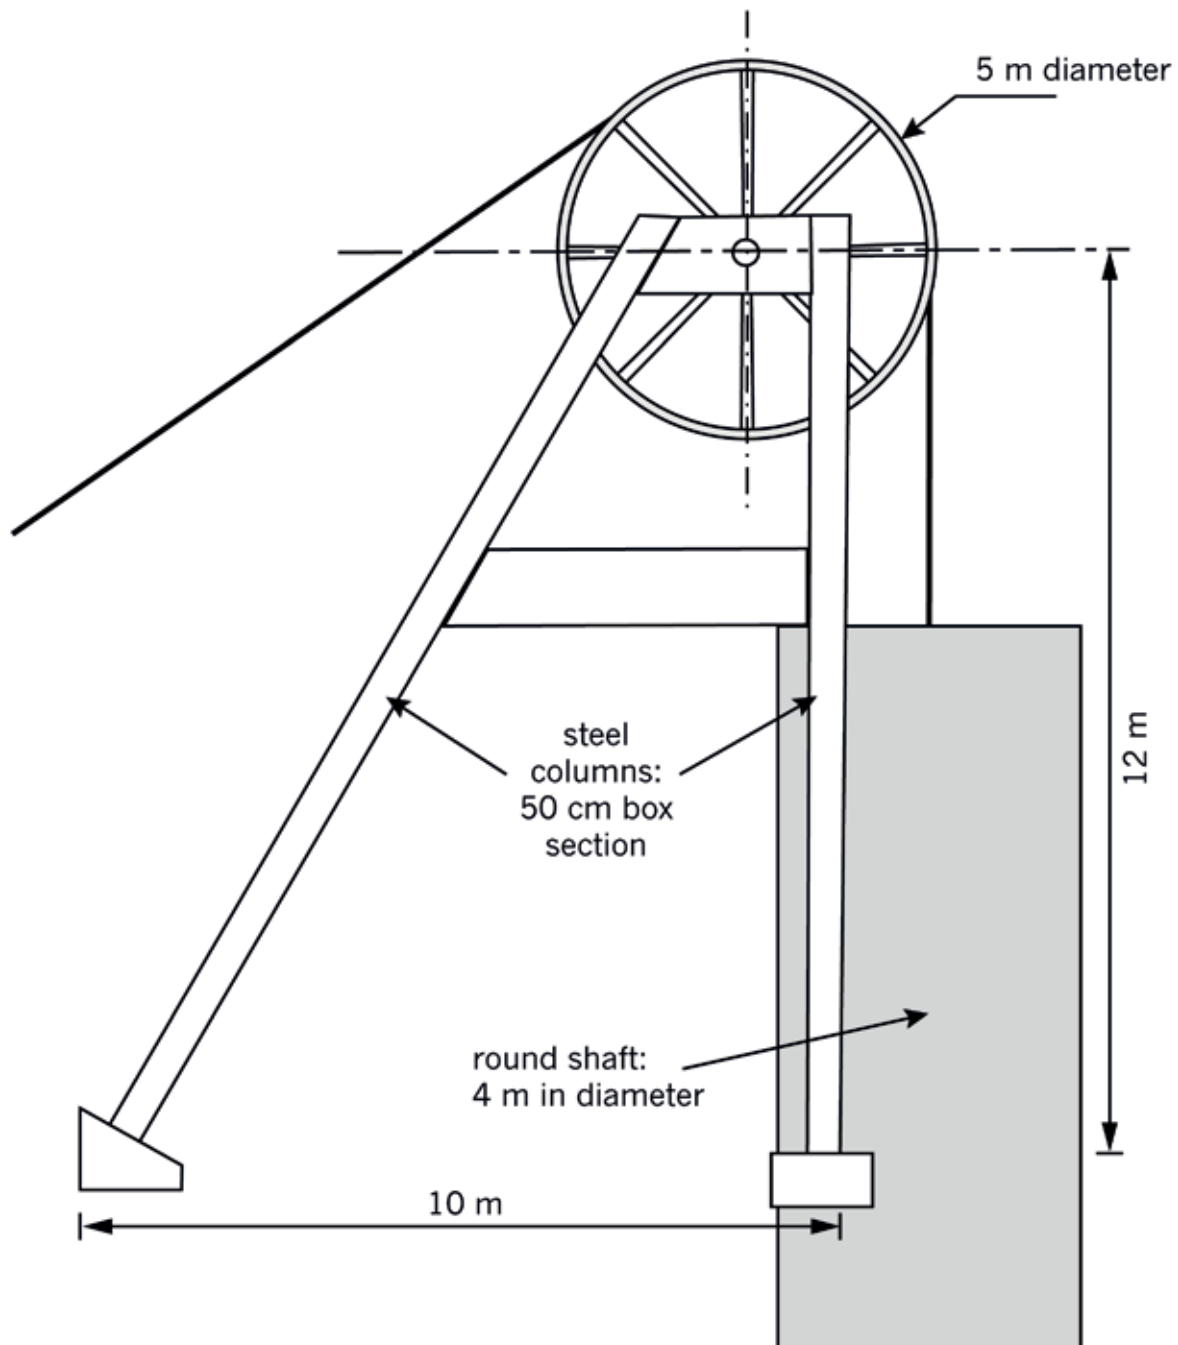

Figure 5: A working drawing of a head frame
Look at Figure 5. It is a working drawing for a small head frame design.
1. Draw your head frame in the grid below. Use Figure 5 to help you. You should show all the dimensions for the main parts of your head frame design.
Figure 5 repeated